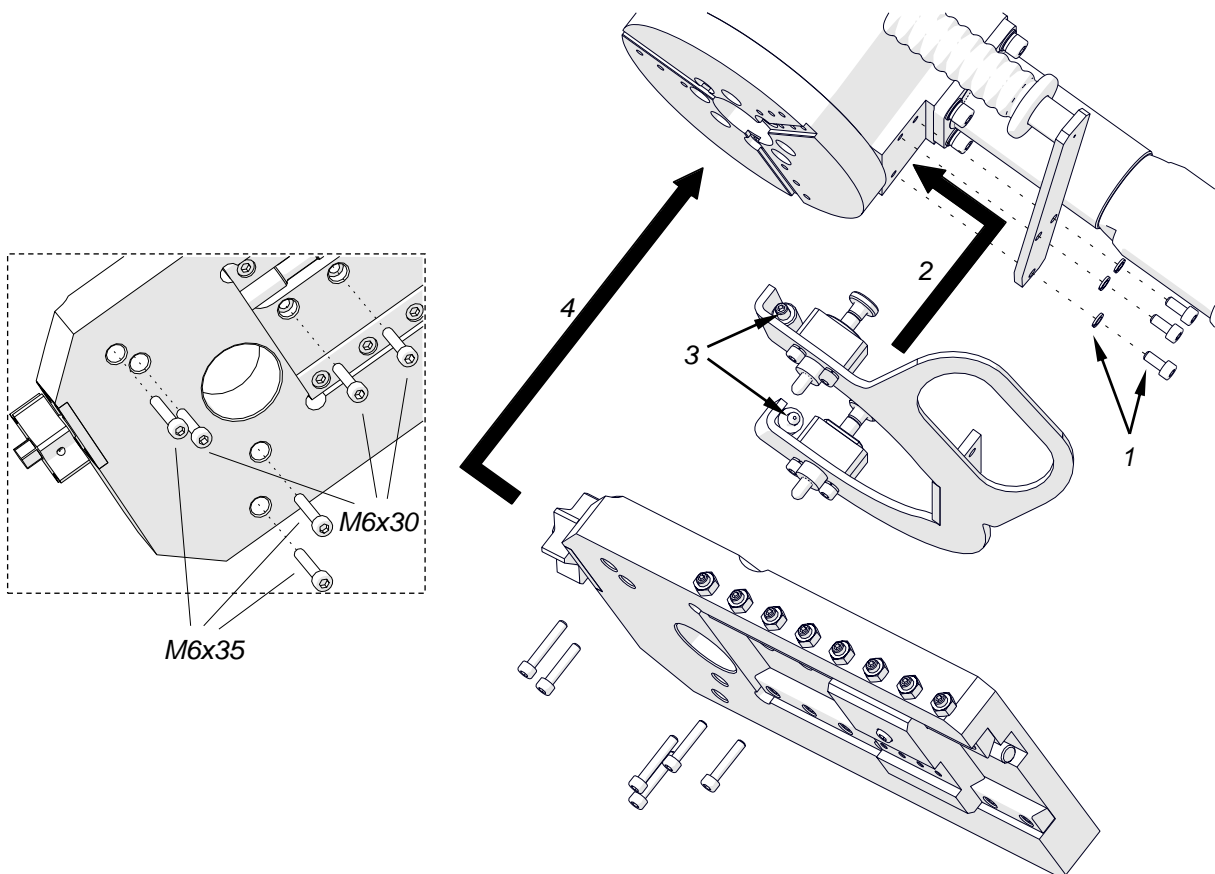

Fig. 8. Installing the flange facing attachment
Next, remove the machine handle by unscrewing three screws with washers (1, Fig. 8), and use them to install the holder with two tripper blocks (2). Then, use the 4 mm hex wrench to tighten the set screws (3) at both sides of the holder. Next, use the 5 mm hex wrench and six screws to fix the milling unit to the spindle disk (4).